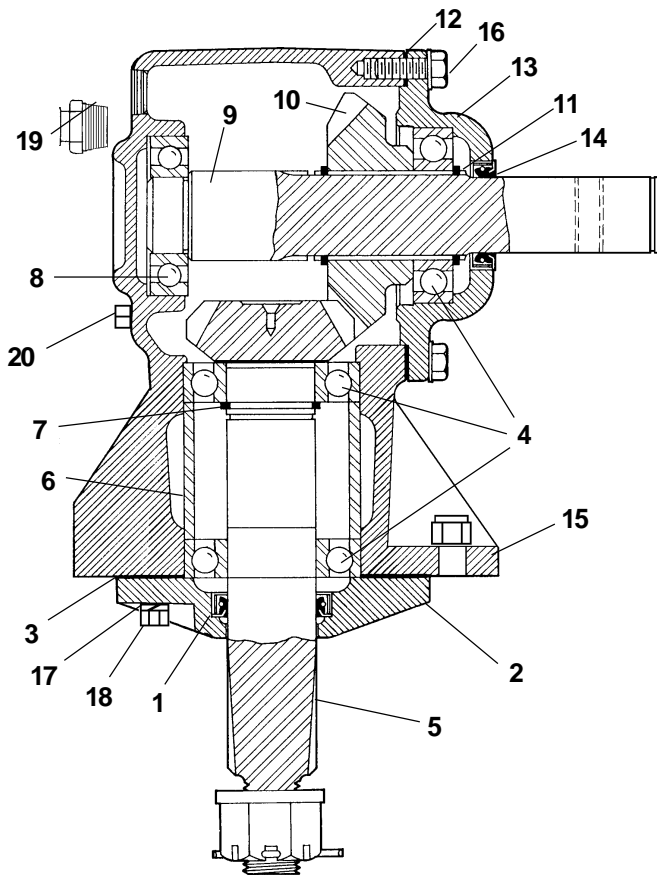

FIGURE 8
GEARBOX DISASSEMBLY (Figure 8)
2. Tap around circumference of bearing housing (Ref. #13) to loosen housing and shims. Then (Ref. #9) pull complete shaft and housing assembly (See Fig. 8) out of main housing.
1. Install slotted nut (Ref 18, **Figure 8**) onto shaft and then tap shaft end on solid surface to remove lower bearing and spacer.
- 1A. Assembly of output shaft is accomplished in exact reverse order. Install bearing over shaft and press up against bottom end of gear. Install snap ring (Ref. #7 **Figure 8**).